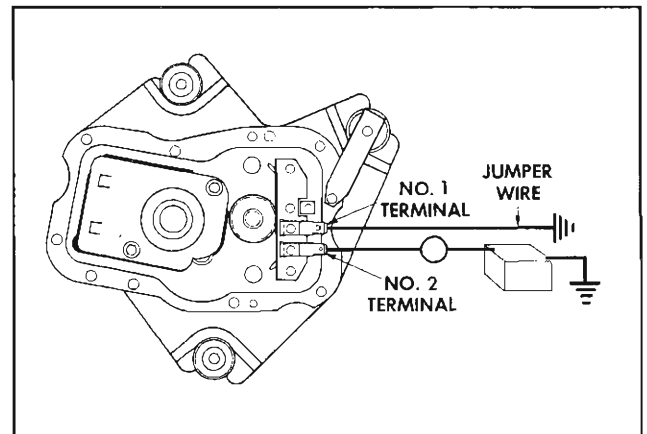

Fig. 11-61 Connection for Test Purposes
Fig. 11-61 shows the proper method of connecting jumper leads to the wiper so that it can be operated independently of the dash switch or car wiring for test purposes. **NOTE:** Specification table at end of this section lists current draw data.
2. If everything checks out in Step 1 and wiper fails to operate, disconnect wiring harness from wiper and check for 12 volts at harness terminal that connects to wiper terminal No. 2, Fig. 11-61.
3. Connect 12 volt supply to No. 2 wiper terminal and connect a jumper wire from terminal No. 1 to ground (Fig. 11-61). If wiper operates, the dash switch or wiring between dash switch and wiper is defective.
2. If wiper still operates in Step 1, disconnect wiring from wiper and connect 12 volt supply direct to wiper terminal No. 2 (Fig. 11-61). Do not connect any jumper wire to terminal No. 1.
Connect 12 VDC Power source and ammeter to wiper as shown in Fig. 11-61 and observe current draw and wiper operation. NOTE: Identify wiper part number from wiper motor end cap and select proper current draw from specification table.
Wiper crank arm stops rotating immediately when jumper wire is disconnected from wiper terminal No. 1 (Fig. 11-61). **NOTE:** When crank arm has reached park position the crank arm index grooves will line up approx. with the ridges on the gear box cover.
Wiper crank arm fails to stop in park position when jumper wire is removed from wiper Terminal No. 1. Fig. 11-61.
2. Check for grounded condition in the internal motor lead that connects to terminal No. 1, Fig. 11-61.